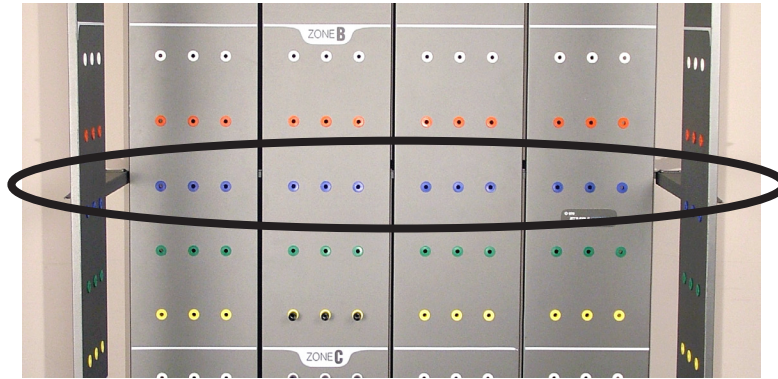

Figure 1-15. Blue Row of Zone B on the FROM panels
- Step 3. Locate the blue row in Zone B on the FROM panels (Figure 1-15). Clean this area *on the back* of all 6 panels with glass cleaner.